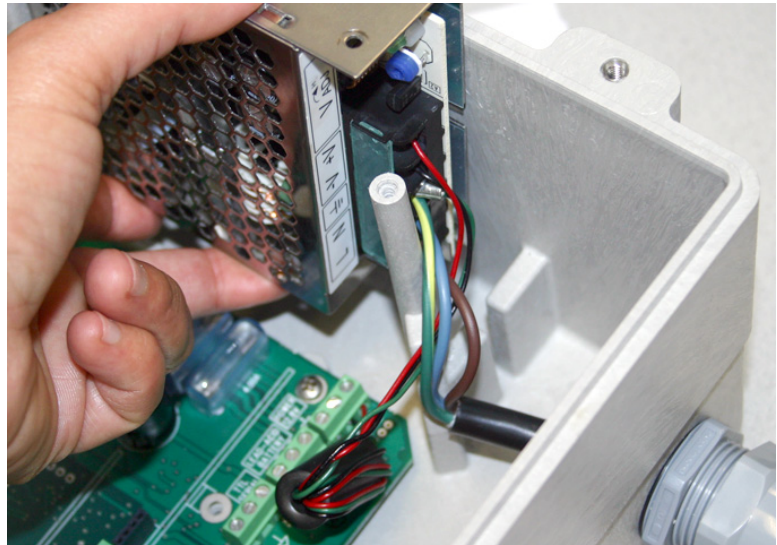

Figure 5-3 Power supply removal / replacement
8. When seating the power supply into its niche, guide the attached wires around in front of the mounting standoff and through the molded slot, so they are not strained or damaged (see Figure 5-3).